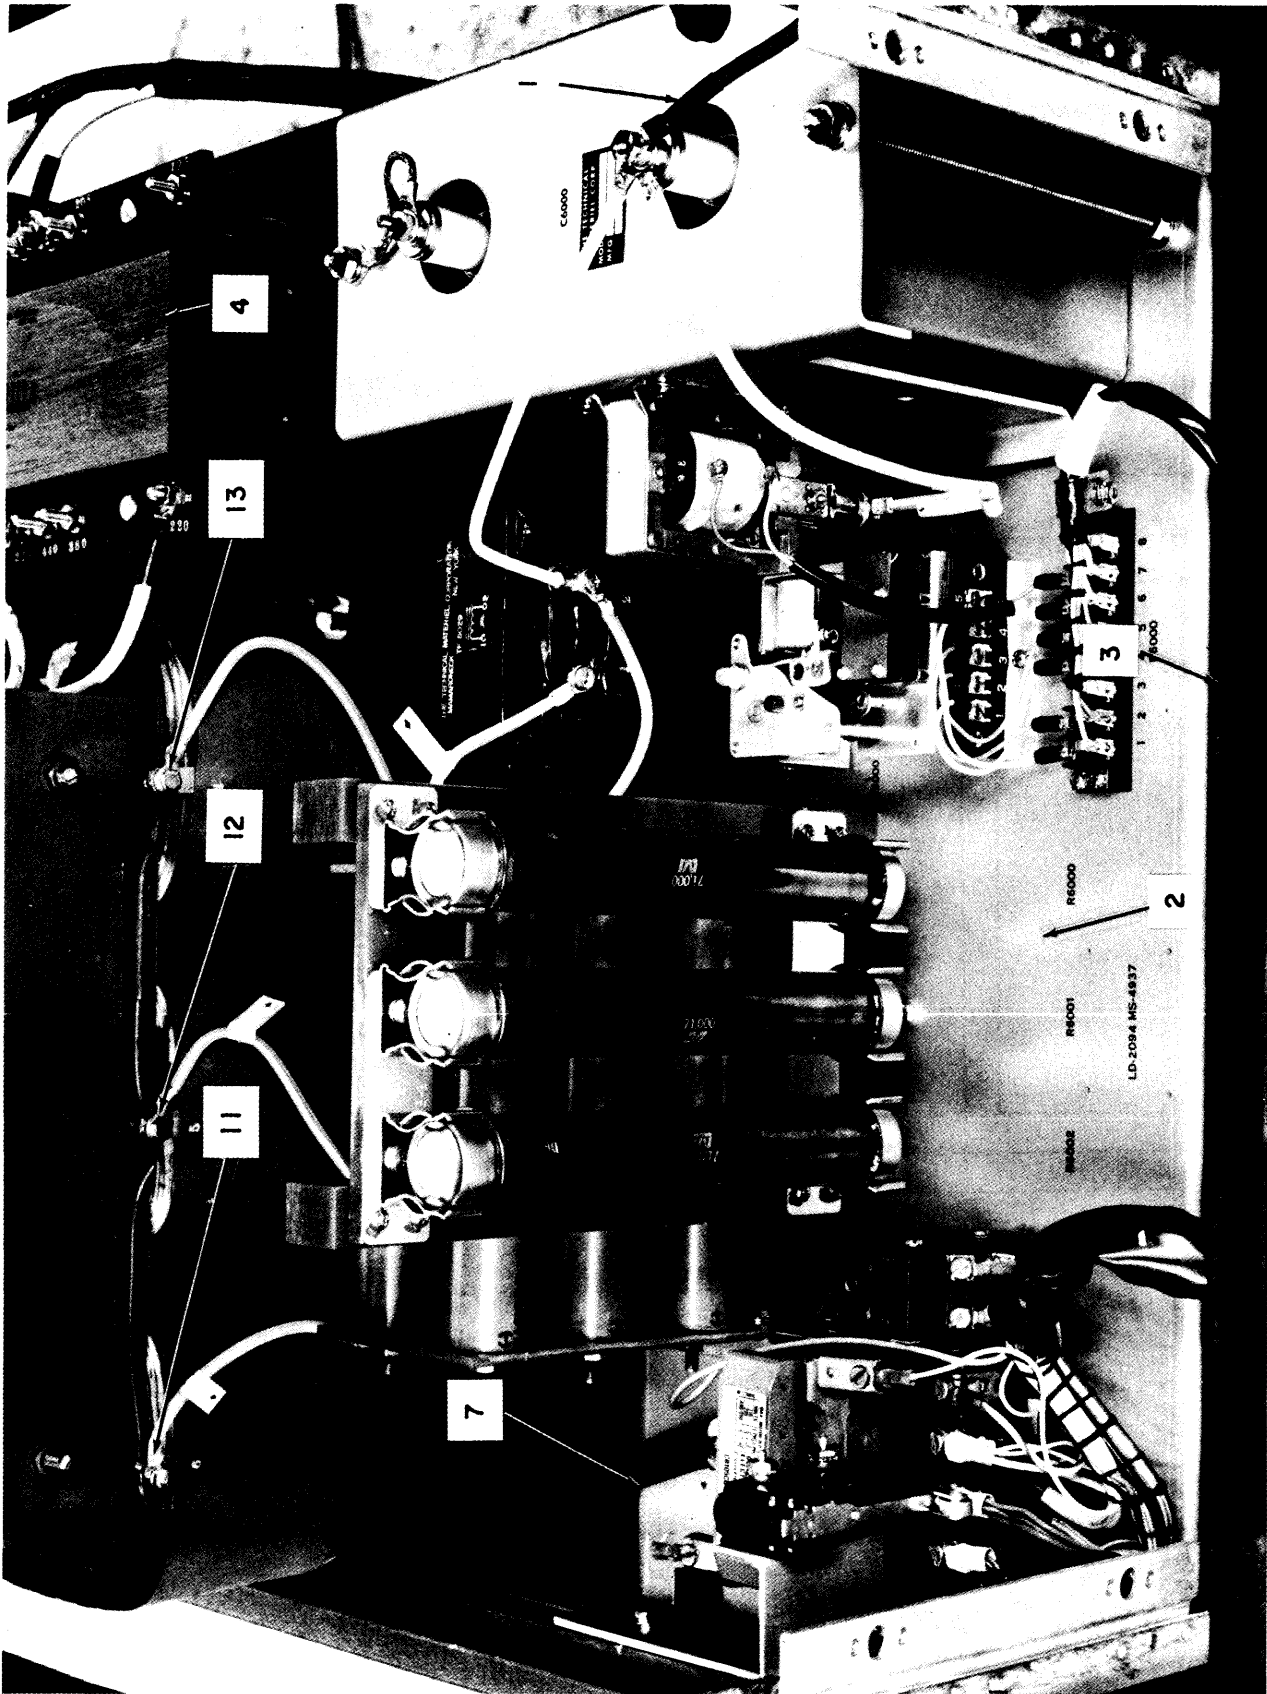

Figure 2-3. Front View of High Voltage Power Supply
a. To gain access to the front-bottom mounting holes, loosen mounting hardware that fastens the high voltage power supply assembly to the rack frame. (See figure 2-3.)
- e. Connect jumper leads between rectifier and transformer as follows (see figure 2-3):